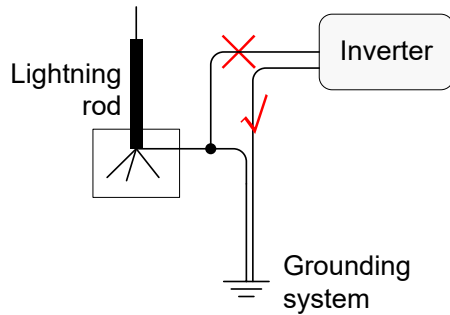

Figure 3-31 Grounding diagram of inverter
- The grounding of the inverter and the lightning rod of the building that inverter installed cannot be the same, the two need to be separated (as shown in Figure 3-31), or, lightning stroke will damage the inverter.